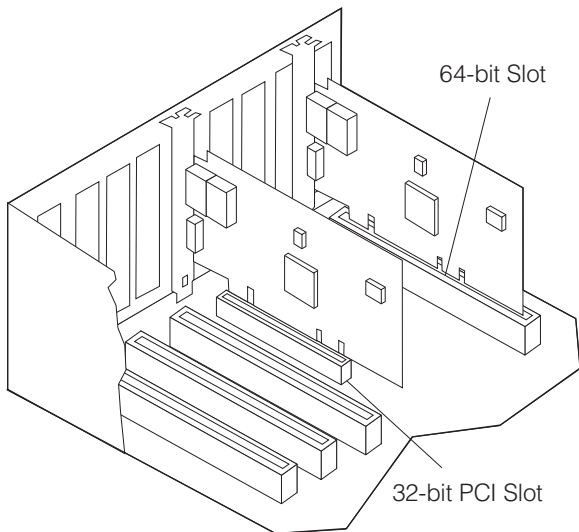

Figure 1. PCI Slot Locations
3. Remove the cover bracket from a 32-bit or 64-bit PCI busmaster slot (see Figure 1). If your computer has a 64-bit PCI slot, use it. In a 32-bit PCI slot, the end of the edge connector will be exposed and not connected. Make sure the exposed end does not contact any conducting part of the motherboard.